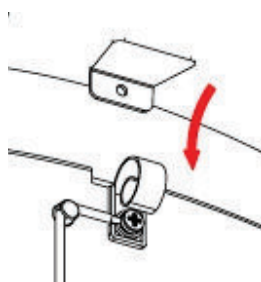

Figure 8.
- Carefully place the casing on the base of the device. To do so place it over the base with a slight incline from top to bottom, in such a way that the tab in the casing correctly inserts into the corresponding slot in the base (Figures 8 and nº 9).